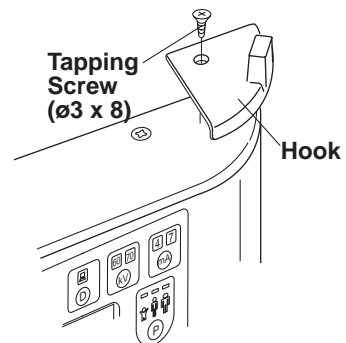

Fig.3-24 Attaching Hand Exposure Switch Hook
5. Place the hook on the top corner (right or left) of controller and attach it with the tapping screw (ø3 x 8mm). **(Fig.3-24)**